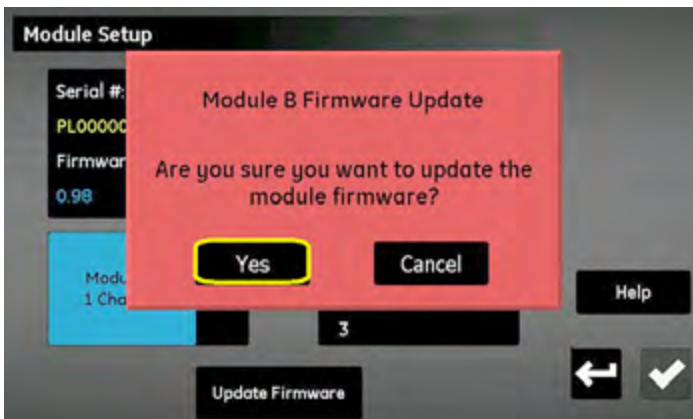

Figure 97: Confirmation screen
7. Updating the software will take a few minutes, and the screen shown in *figure 97* below is open during the update.